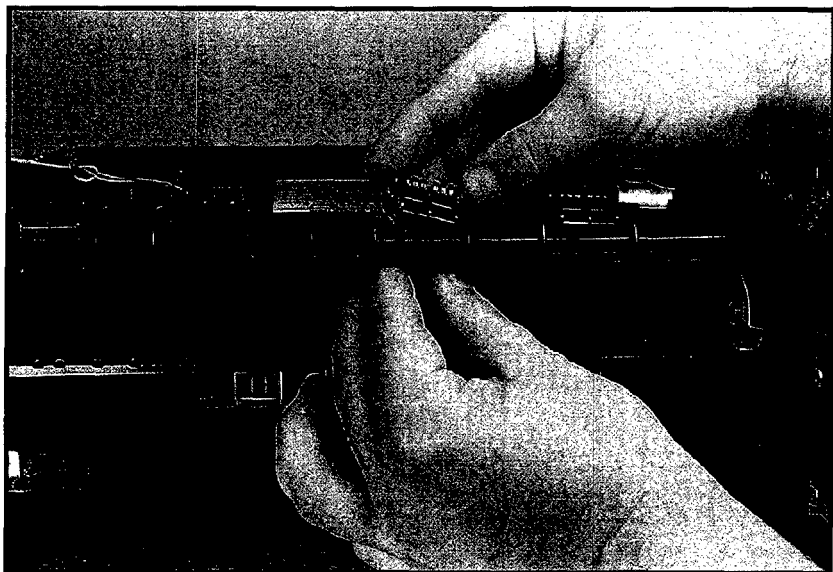

Figure 6-35 Removing the Lower Output Rollers
3. Push either the left or right tab inward, tilt the Output Roller and lift upward to remove (Figure 6-35). Use the same procedure for all four rollers.